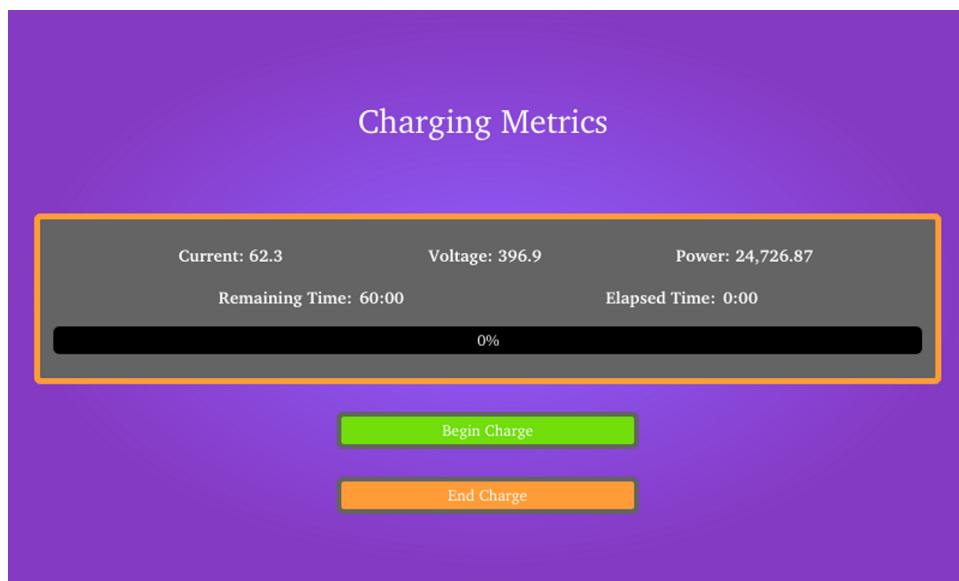

図 12. EVSE HMI Demonstration GUI—Rate-Charging Metrics Screen (Page Four)
7. 図 12 shows the last page in the demonstration.